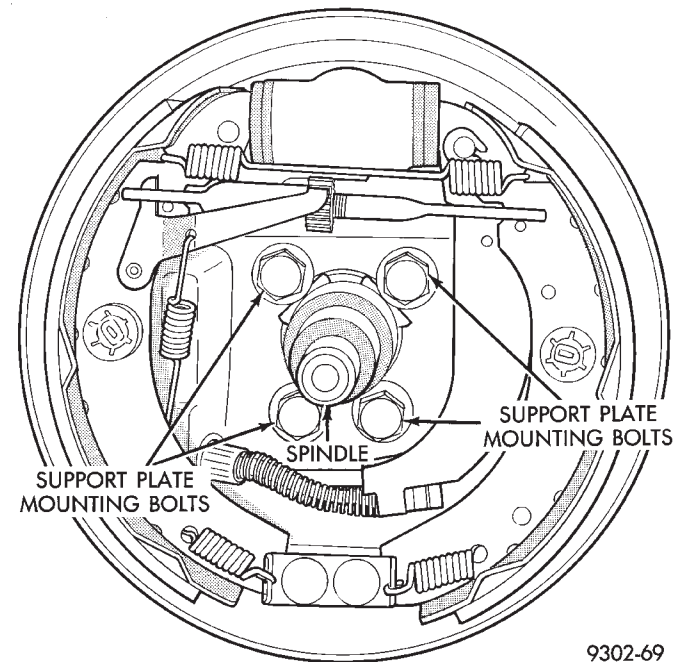

Fig. 17 Brake Support Plate Mounting Bolts
(5) On vehicles equipped with rear drum brakes. Install the rear brake support plate onto the spindle (Fig. 17). Install the 4 bolts attaching the rear brake support plate to the rear spindle (Fig. 17). Torque the brake support plate to spindle mounting bolts to 115 N•m (85 ft. lbs.).